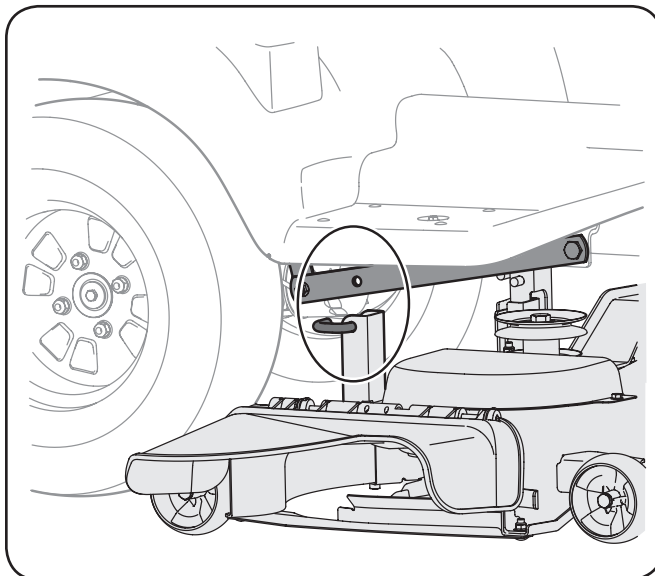

Figure 2-1
3. Align the tractor's lift links with deck support pins found on the rear deck brackets. See Fig. 2-1.